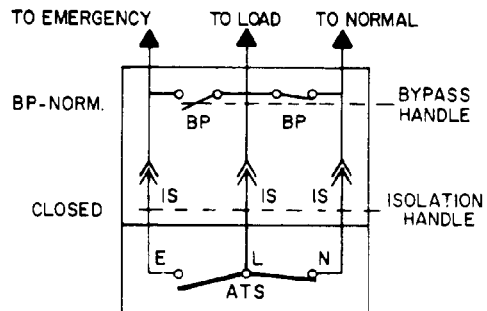

Figure 3-10. Closed position (Isolation contacts are fully engaged.)
5. Turn the **Isolation Handle** clockwise to the *CLOSE* position (Figure 3-10).